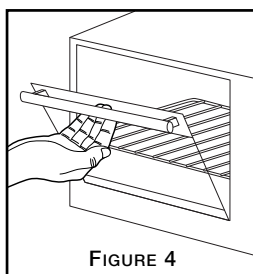

FIGURE 4
Step 2: Pull down the oven door carefully (*See Figure 4*).